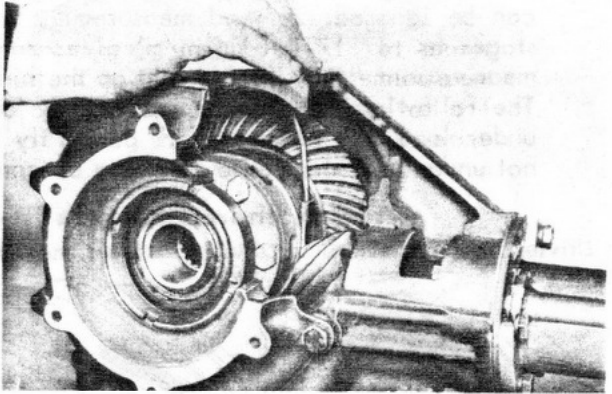

Fig. 23
11. To measure the distance between the end face of the pinion and the ground surface of the diff. housing the gauge WK 137 is used (Fig. 23).